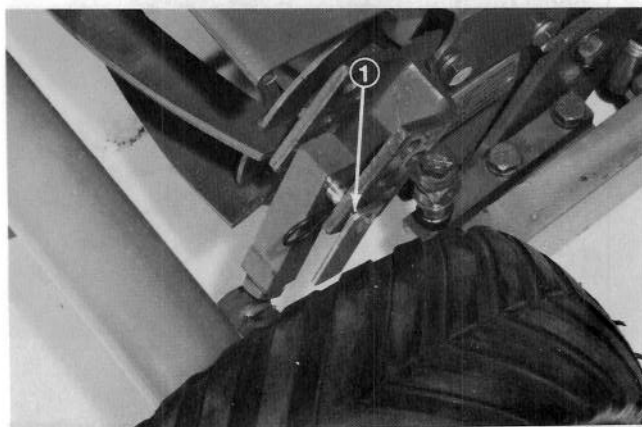
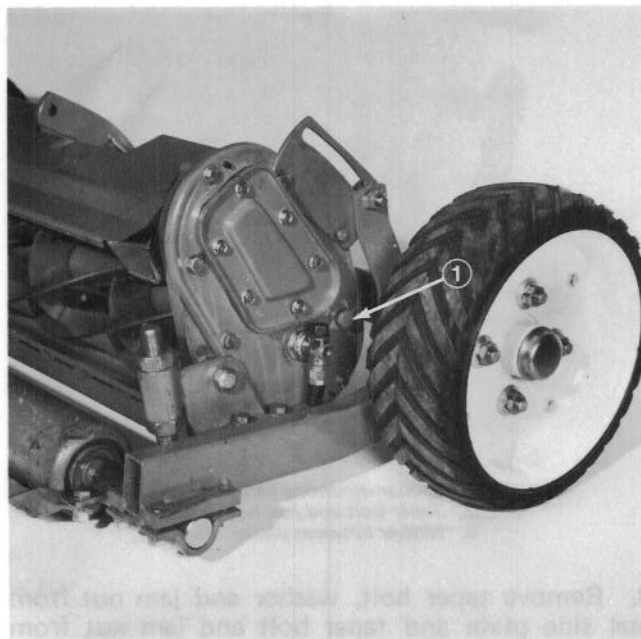

Figure 4
Figure 5
2. With the cutting units mounted on the machine and positioned on a level surface, raise the height of cut to the highest setting in either height of cut range by installing pin in H.O.C. bar in highest H.O.C. adjustment hole (Fig. 4). Remove the filler plug from the chain case and check the oil level every 50 hours (approx. 2 weeks) during initial wear-in. 100 hours after oil level has stabilized and chain and sprocket wear-in has discontinued (Fig. 5). The oil should be to the bottom of the hole (10-11 oz.) when set at 3/4" H.O.C. Add SAE 90 oil if the level is low. Clear any metal filings off magnetic filler plug before reinstalling in case. Oil should be changed after the first 100 hours of operation, and thereafter at 500 hour intervals. Drain plug located at bottom of chain case.